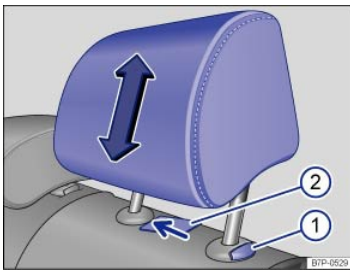

Fig. 43 Removing the rear head restraints.
- Slide a flat object, such as a plastic credit card, underneath the right side of the cap on the right-hand seat guide rod ⇒ Fig. 43② to unlock the head restraint.
- At the same time press button ⇒ Fig. 43① while a second person pulls out the head restraint completely.
- Push the head restraint down while pressing the button ⇒ Fig. 43①.